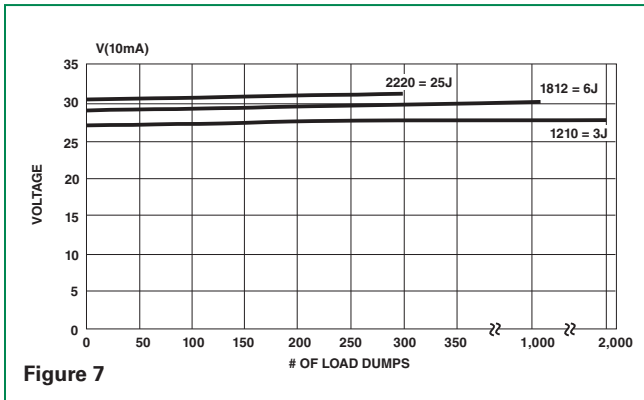

Figure 7
Further testing on the AUML Series has concentrated on extending the number of Load Dump pulses, at rated energy, which are applied to the devices. The reliability information thus generated gives an indication of the inherent capability of these devices. As an example of device durability the 1210 size has been subjected to over 2000 pulses at its rated energy of 3 joules (J); the 1812 size has been pulsed over 1000 times at 6J and 2220 size has been pulsed at its rated energy of 25J over 300 times. In all cases there has been little or no change in the device characteristics (Figure 7 on next page).